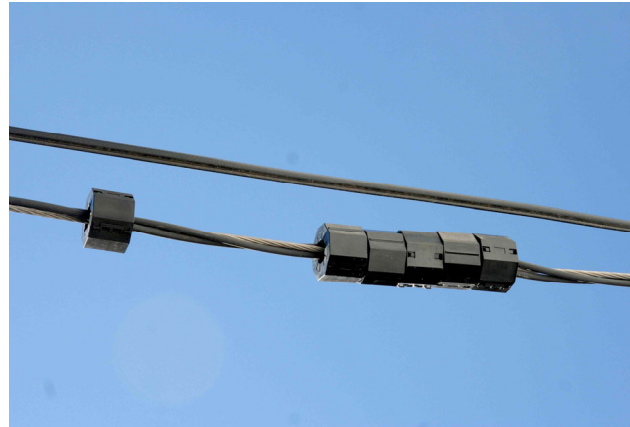
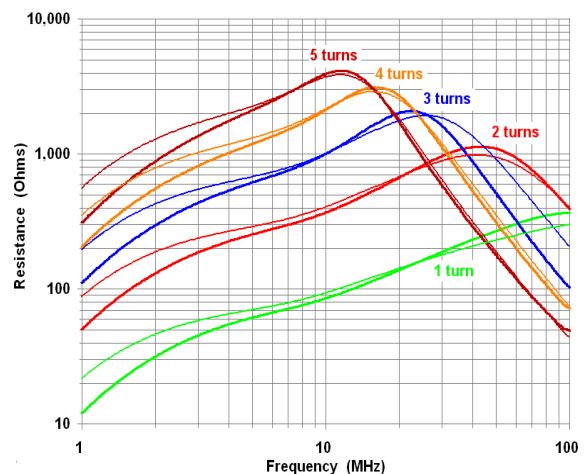
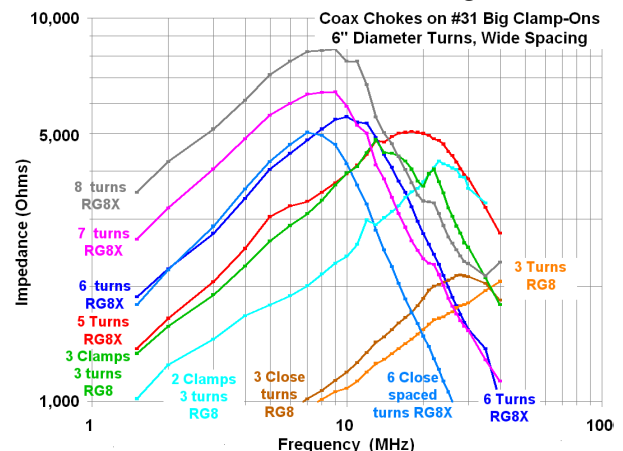

Fig 31 – Chokes on a Power Line
Fig 38 – The "Biggest #31 Clamp-On"
Fig 45 – Measured Impedance of Chokes wound on the "Big #31 Clamp-on"
**Ferrite Chokes On a Service Drop** Radiation of common mode noise from a typical residential overhead 240V power service can be suppressed by adding ferrite cores to the twisted triplet as it enters the premises. In Fig 31, six "big clamp-ons" (Fig 38) provided some suppression of noise on 40 and 30 meters to the antenna that ran parallel and fairly close to the power drop. This technique can only be used when the ferrite surrounds all three current-carrying conductors (two phases and the neutral), not just one of them. Thus, the ferrite sees only the common mode current, not the load current. The other cable visible in the photo is a telephone line, and chokes were applied to it at the point where it entered the house.
**Weight:** A 2.4" o.d. #31 toroid weighs about 4 oz, and we need less than 8 ft of coax for five turns, so a five core choke on RG8 will add just about 4 lb to the weight of the antenna. The "Big Clamp-On" of Fig 38 can also be used for coaxial chokes; it weighs 11 oz, and is equivalent to four or five toroids. Can we use smaller coax? Probably, especially if our antennas are always reasonably well behaved. The failures mostly come when they are not. W8JI reports that he often feeds high dipoles for 160 and 80 with RG6 to reduce weight, thus reducing sag and the strain on support lines, and that a good RG6 will handle full legal power. My "workhorse" 160/80/40 dipole, fed with 150 ft of RG59B that I bought from "The Wireman" several years ago, does fine with the full output of my Titan amp, even with a mismatch on the line that approaches 2.5:1 during SSB contests.
**The Biggest Clamp-On** Fig 38 is data for coils wound through the "biggest Fair-Rite #31 clamp-on" in Fig 5. Measured data for 1-5 turns through this part and a somewhat smaller one are shown in Fig 38. The heavier lines are the biggest clamp-on (1" i.d.); the lighter lines are for a 0.75" i.d. part. While the smaller part provides a bit higher impedance at low frequencies, it is far less useful because it doesn't allow as many turns of most cables on which we would like to use it. This big clamp-on is quite useful in many applications where it isn't practical to remove a large connector. Although we only measured small wire chokes up to five turns with this part, it can certainly be used with more than 5 turns of some cables. More turns moves the resonance even further down in frequency; it also increases the equivalent series resistance below resonance, and for up to about one-half octave above resonance. See Fig 45 for coaxial chokes using the "biggest clamp-on."
More turns moves the resonance even further down in frequency; it also increases the equivalent series resistance below resonance, and for up to about one-half octave above resonance. See Fig 45 for coaxial chokes using the "biggest clamp-on."
**The Biggest Clamp-On** Fig 45 is measured data for various coaxial chokes wound through the "biggest #31 clamp-on" of Fig 5 and Fig 38. This clamp-on is a very useful and versatile part, because it can easily be applied to cables without removing a large connector, or without disconnecting them from an existing system.